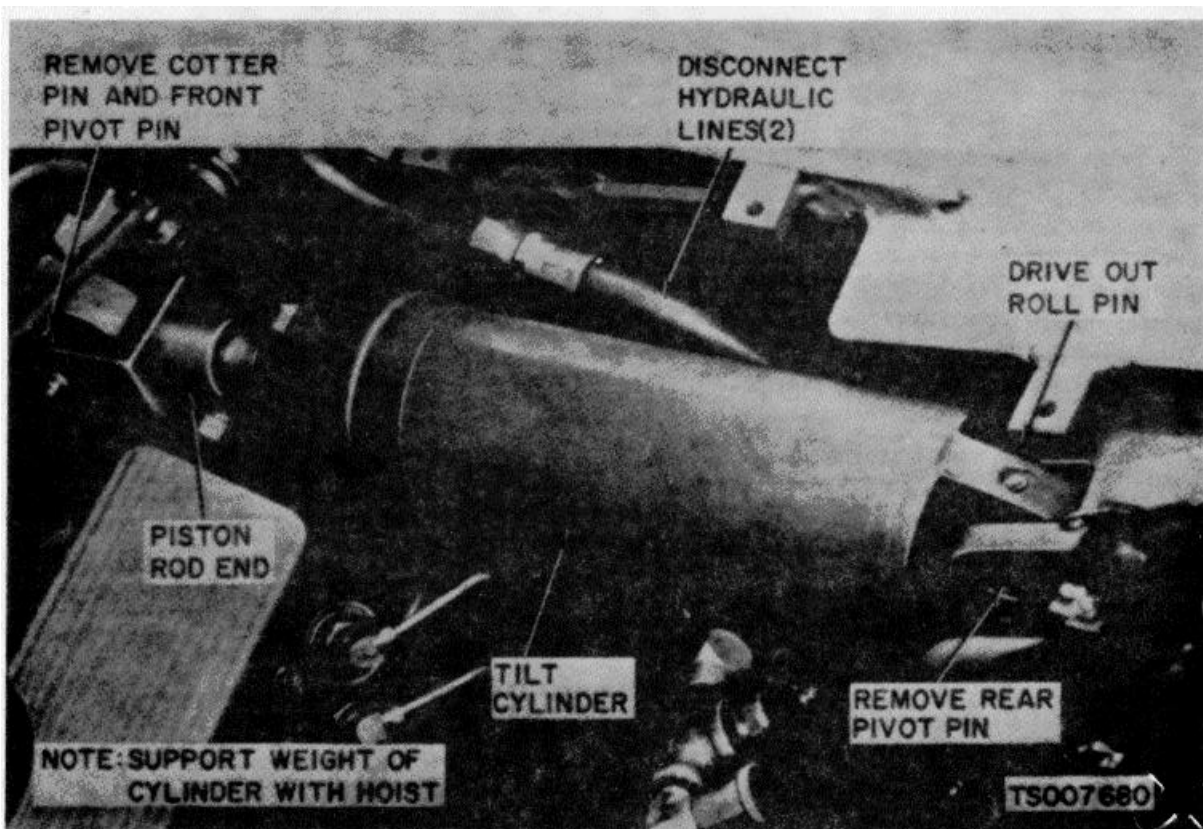

Figure 4-7. Tilt Cylinder, Removal and Installation
- (1) Lower the carriage to the floor. Secure the mast to the overhead guard to prevent the mast from tipping when hydraulic pressure is relieved.
- (2) Remove the floor plate.
- (3) Place a drain pan under the tilt cylinder. Disconnect the two hydraulic hoses from the tilt cylinder and allow the cylinder and hoses to drain.
- (4) Remove the tilt cylinder as shown in figure 4-7.
(1) Install the tilt cylinder as shown in figure 4-7.
(2) With the engine at fast idle, operate the tilt lever until mast is tilted fully to the rear.
(3) Check degree of rear tilt; this should not exceed 10°. If degree of tilt is not 10°, reposition front rod end to obtain 10° back tilt.
(4) Visually check to see that both sides of mast move back and forth the same distance.
(5) Install cotter pin in front cylinder pin that secures cylinder to upright.
(6) Lubricate the tilt cylinder pins.
(7) Install the floor plates.